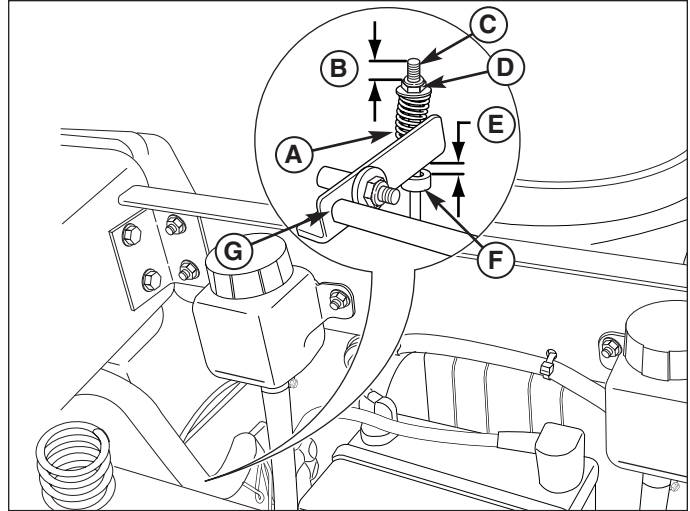

Figure 14. Parking Brake Adjustment
3. Measure the distance from the top of the brake spring rod (C, Figure 14) to the top of the lock nut (D) on both sides of the unit. The measurement should be $.50''$ (1,27 cm). If not, adjust the locknut to achieve the measurement of $.50''$ (1,27 cm).
4. Measure the distance between the bottom of the brake shaft weldment (G) and the top of the set collar (F). The measurement should be $.375''$ (0,95 cm). If not, position the set collar until the measurement equals $.375''$ (0,95 cm).